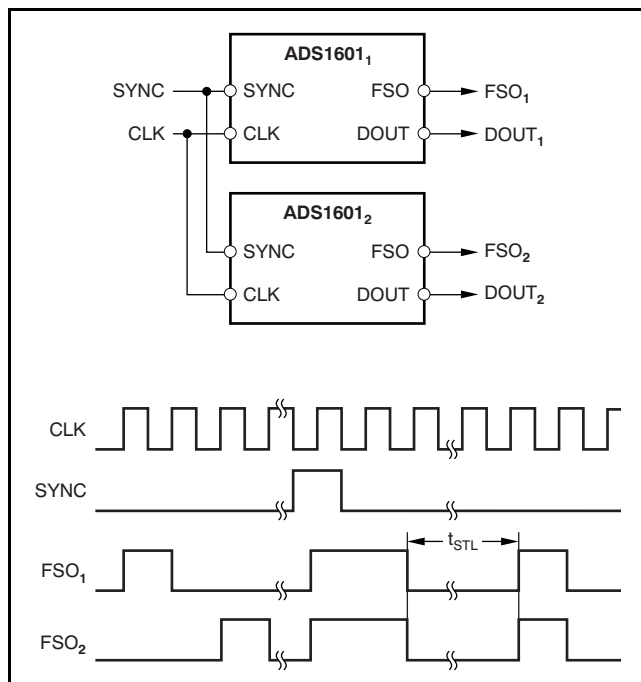

Figure 43. Synchronizing Multiple Converters
The SYNC input can be used to synchronize multiple ADS1601s to provide simultaneous sampling. All devices to be synchronized must use a common CLK input. With the CLK inputs running, pulse SYNC on the falling edge of CLK, as shown in Figure 43. Afterwards, the converters will be converting synchronously with the FSO outputs updating simultaneously. After synchronization, FSO is held low until the digital filter has fully settled.
- Updated Figure 43 19